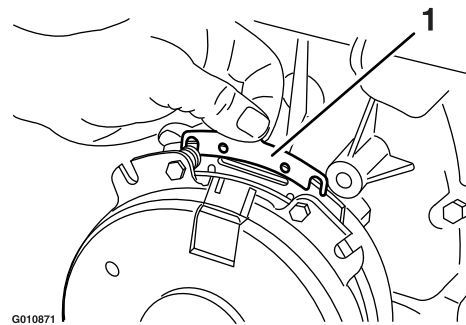

Figure 83
- B. Using needle-nose pliers, or by hand, hold the tab and remove the shim (Figure 83).
Remove any buildup of grass, dirt, or other debris from the engine screen. This helps ensure adequate cooling and correct engine speed and reduces the possibility of overheating and mechanical damage to the engine (Figure 83).